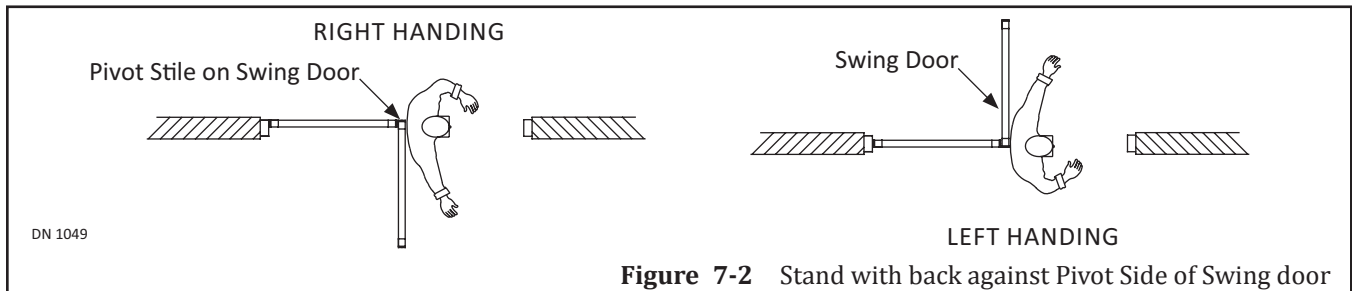

Figure 7-2 Stand with back against Pivot Side of Swing door
- ▶ Stand underneath the Header and then open the Swing door. Butt your back against the Pivot side of the Swing door. Swing out your (right or left) arm in the direction the Swing door opened. If you swing out your Right Arm the Swing Door is Right Handed. If you swing out your Left arm the Swing Door is Left Handed. Please see Figure 7-2.